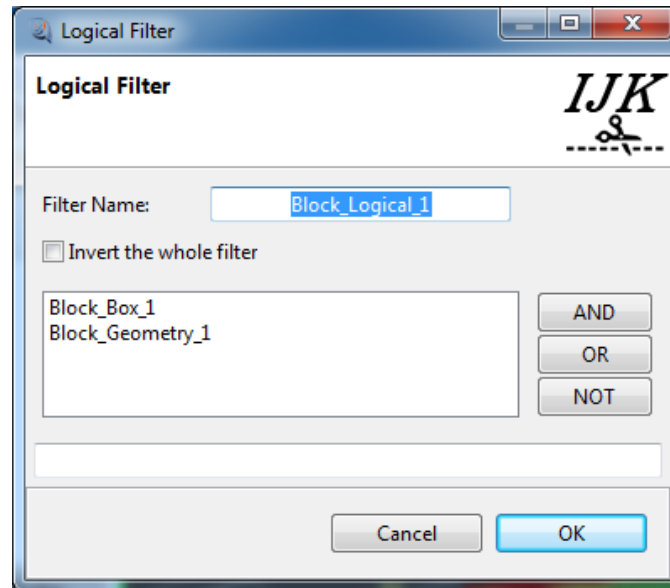

Figure 42 Adding Logical Filter
5. *Block Logical Filter*: This type of filter is used for performing logical operations of “AND”, “OR”, or “NOT”. For performing logical filter at least two filters are required. The dialog of the Figure 42 is displayed if user wants to add block logical filter.